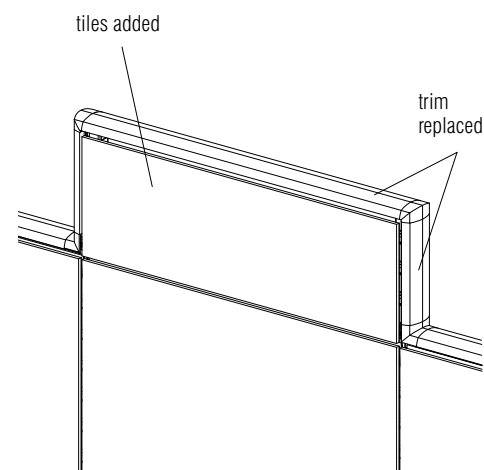

Figure 86
3. After the necessary stacking sections are in place, add the necessary horizontal rails, tile hooks, tiles and trim to complete the installation. **Figure 86.**